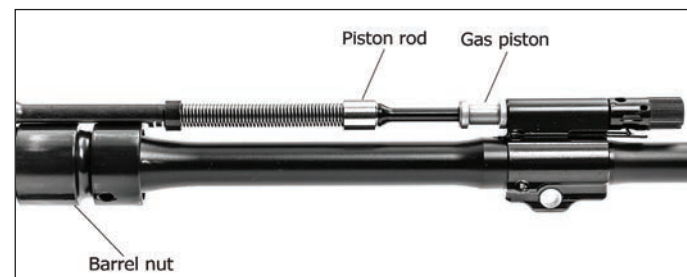

Fig. 53 – Lubrication of the Gas Piston, Piston Rod, and Barrel Nut Exterior
1. Apply a medium coat of lubricant on the gas piston and operating rod (Fig. 53)